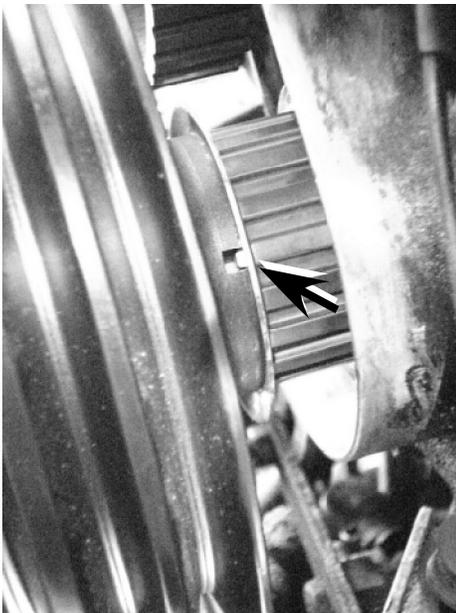

Figure 20.
5. Temporarily install the crankshaft pulley per **Figure 20**, making sure the notch on back of crankshaft pulley locks onto the knob (arrow) of the crankshaft pulley boss. Insert bolt and tighten a bit. (You're installing the crankshaft pulley here because you may need to use the pulley holder to remove the bolt after doing rotation of step 6.)
8. Put the crankshaft pulley back on, making sure the notch locks onto knob per **Figure 20**, and insert the pulley bolt. Set up the crankshaft pulley holder and torque the crankshaft pulley bolt to 44 ft-lbs.